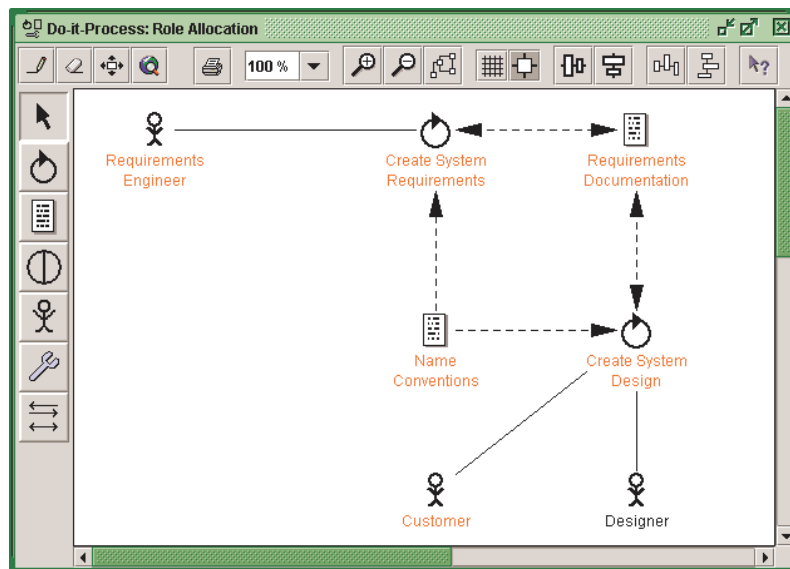

Fig 2.4
- Graphical view for modeling resource allocation relationships that specify roles and tools involved in a process by assigning them to specific activities (see figure 2.4)